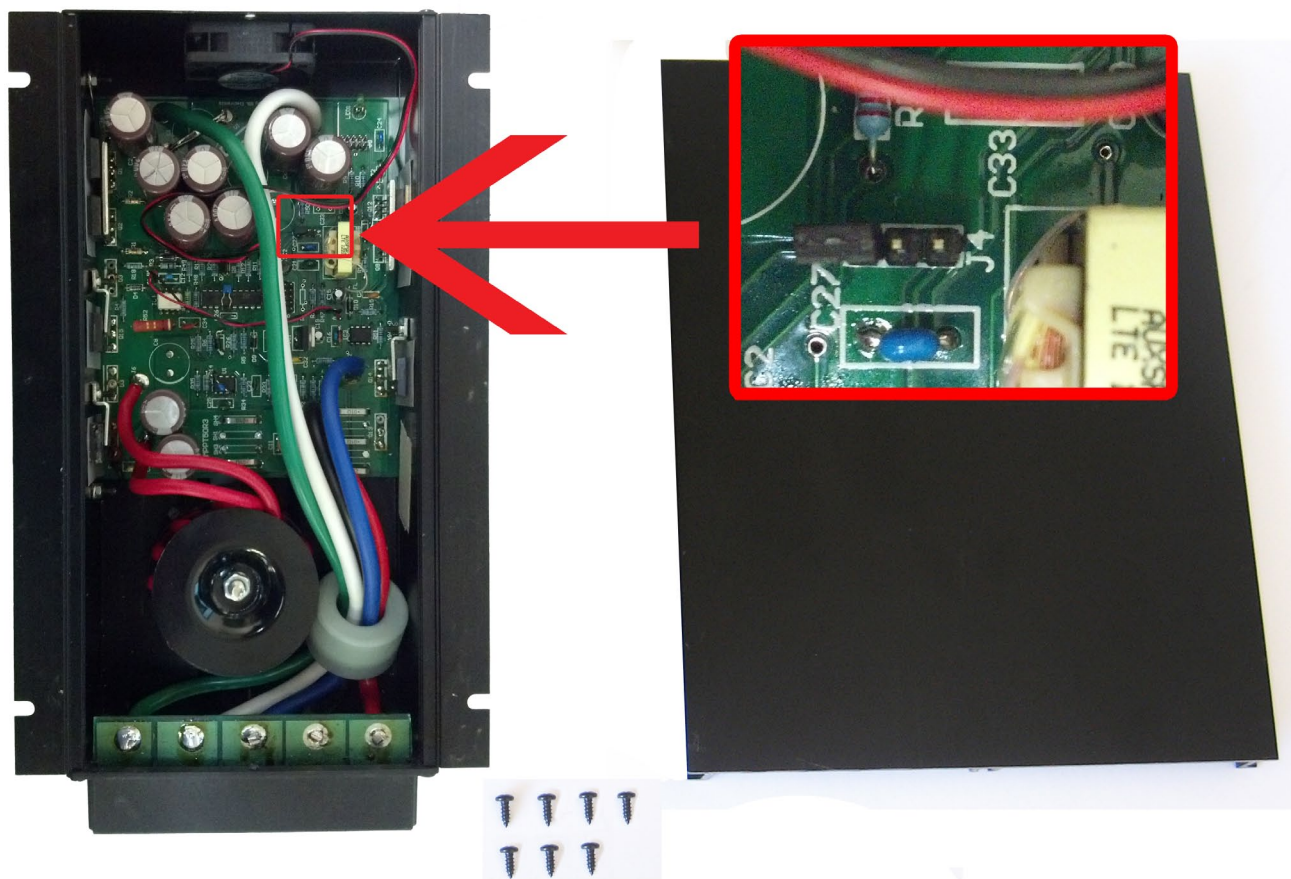

Figure 1.
- 2.Remove 7 front panel screws and the front panel and slide out cover – **see Figure 1.**
- 3.Locate connector J4 – **see Figure 1.**